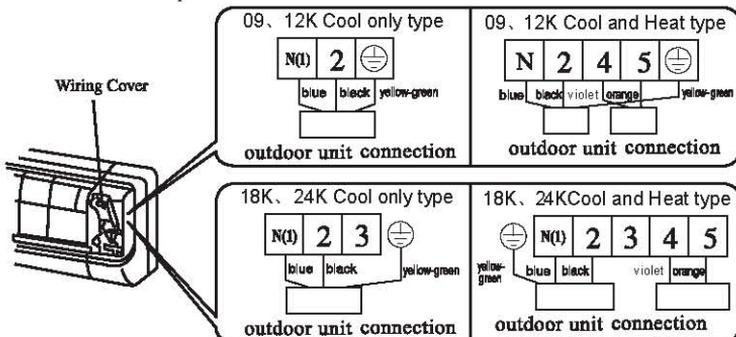

Fig.6
2. Remove the wiring cover Fig. 6.